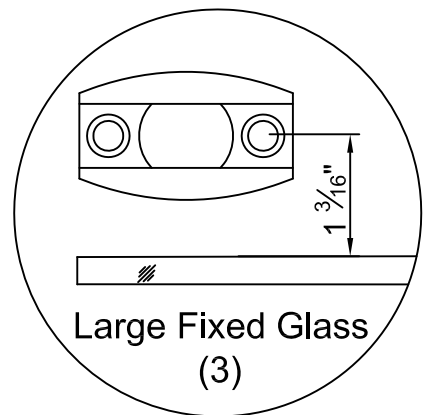

Fig. 22
22. Position the Sliding Door Track Divider (8) into position as seen in Fig.22 and mark the 2 shower base hole positions.
**Note:** In Fig.22 the hole locations for attaching sliding door track divider should be  $1 \frac{3}{16}$ " from edge of Large Fixed Glass (3).
See Fig.22 for details.